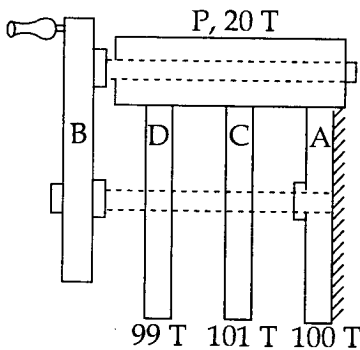

Fig. 1
5. An epicyclic gear train shown in fig 1. Gear A is fixed to the frame. The arm B and gear C and D are free to rotate on the shaft. Gear A, C and D have 100, 101 and 99 teeth respectively. Pitch circle diameters of all are the same so that the planet gear P has 20 teeth meshes with all of them. Determine the revolutions of gears C and D for one revolution of the arm B. 10